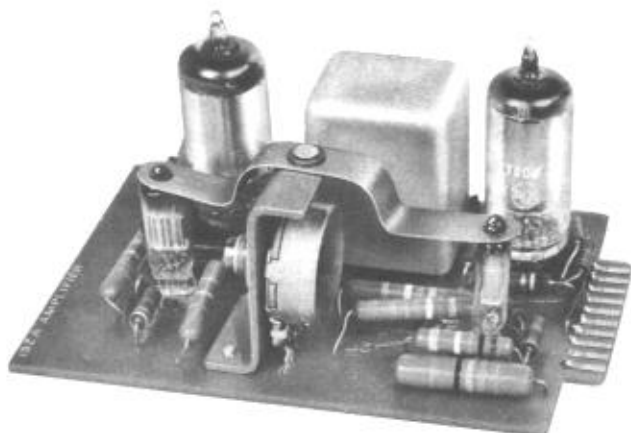
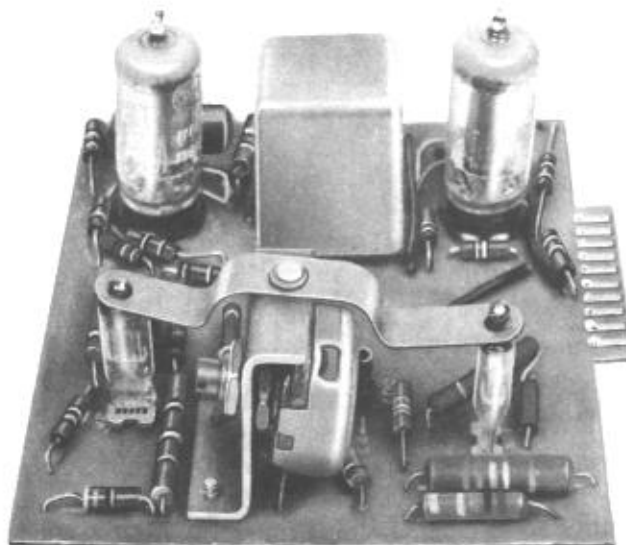

Fig. 1 — 152A Amplifier — Early Type
Fig. 2 — 152A Amplifier — Later Type
- On early type sets the amplifier will be similar to that shown in Fig. 1 but will not have a code number stamped on the card. (See Fig. 6 for circuit schematic.)
- On standards sets initial production will be equipped with the type amplifier shown in Fig. 1. The card will be stamped as shown. (See Fig. 7 for circuit schematic.) Later production sets will be equipped with the type amplifier shown in Fig. 2. The center of the card will be stamped 152A AMPLIFIER. (See Fig. 8 for circuit schematic.)